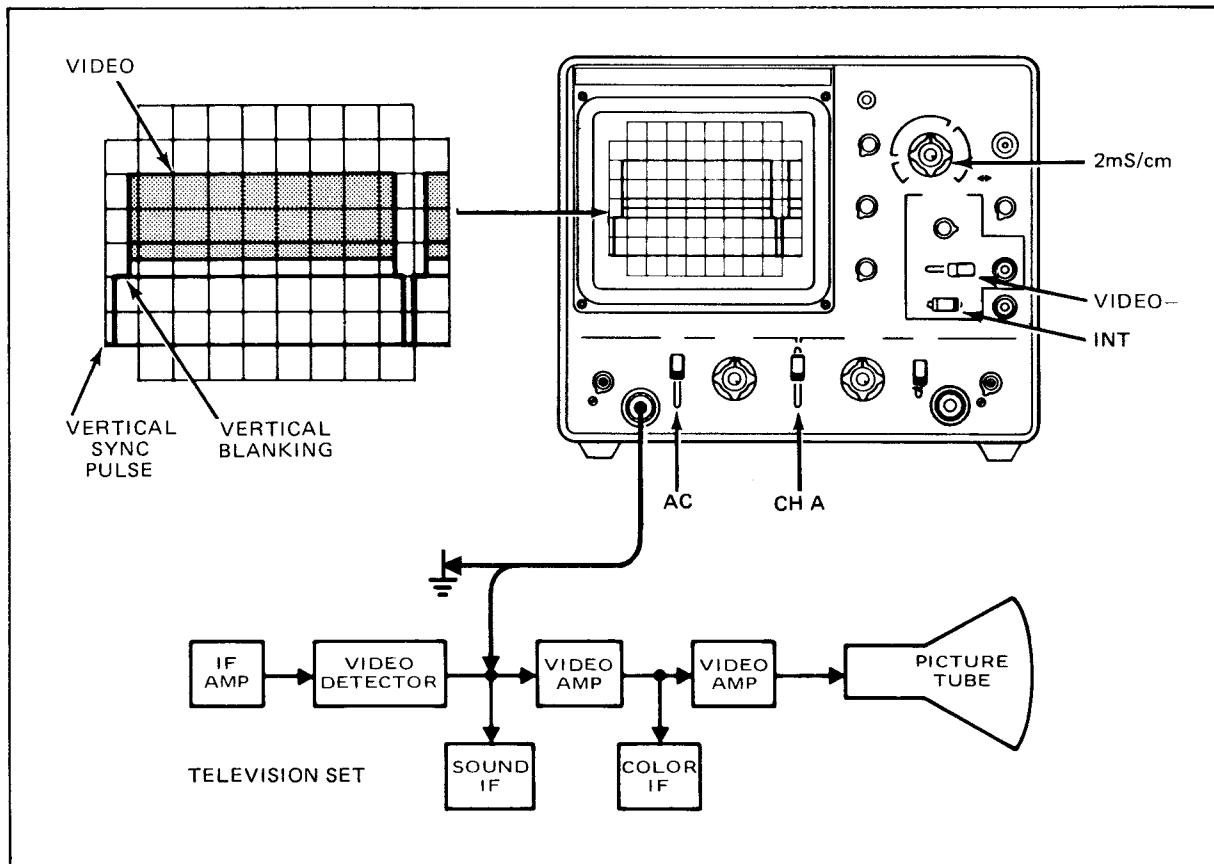
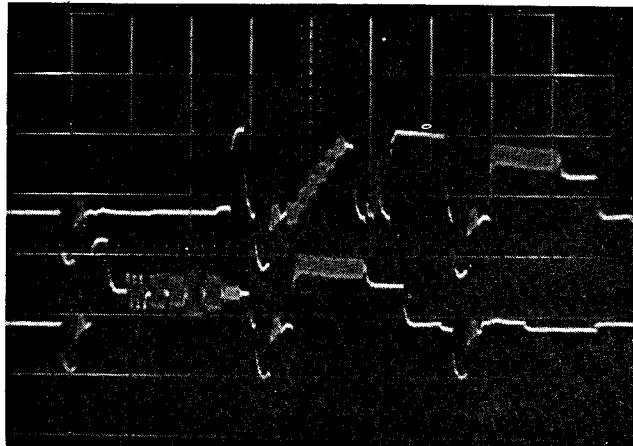
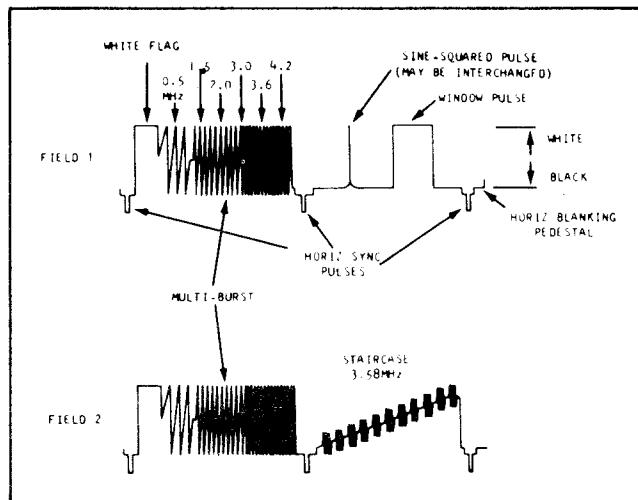
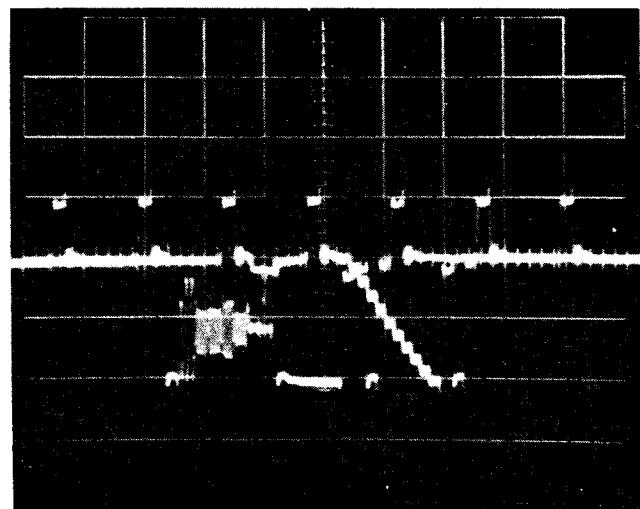

Fig. 14. Set-up for viewing fields 1 and 2 of VITS information.
Fig. 15. Oscilloscope presentation of fields 1 and 2 of VITS information.
Fig. 20. Typical VITS signal, fields 1 and 2.
Fig. 22. Oscilloscope presentation of VITS information, single-trace operation.
Many of the video servicing procedures can be performed using single-trace operation. These are outlined later in the applications section covering single-trace operations. One of these procedures, viewing the VITS (vertical interval test signal), can be accomplished much more effectively using a dual-trace oscilloscope. As outlined in the single-trace applications section and as shown in Fig. 20 and 21, the information on the Field #1 and Field #2 vertical blanking interval pulse is different. This is shown in detail in Fig. 20. Also, because the oscilloscope sweep is synchronized to the vertical blanking interval waveform, the Field #1 and Field #2 waveforms are superimposed onto each other as shown in Fig. 22. With dual-trace operation, the signal information on each blanking pulse can be viewed separately without overlapping. Fig. 14 indicates the oscilloscope control setting for viewing the alternate VITS.
2. The control settings of Fig. 14 are those required to obtain a 2-field vertical display on Channel A.
9. Pull the \blacktriangleleft POS control outward to obtain an additional 5X magnification. Rotate the control in a counterclockwise direction moving the traces to the left until the expanded VITS information appears as shown in Fig. 15.
Fig. 15 shows the dual-trace presentation of the Field #1 and Field #2 VITS information. The Field #1 information is displayed on the bottom trace.
The transmitted VITS may vary from one channel to another, but is a precision sequence of specific frequency, amplitude, and waveshape similar to Fig. 20 and 21. The television networks use the precision signals for adjustment and checking of network transmission equipment, but the technician can use them to evaluate television set performance. The first line of Field #1 (line 17) may begin with a "flag" of white video, followed by sine wave frequencies of 0.5 MHz, 1.5 MHz, 2 MHz, 3 MHz, 3.6 MHz, (3.58 MHz) and 4.2 MHz. This sequence of frequencies is called the "multi-burst." The first line of Field #2 (line 279) may contain an identical multi-burst. This multi-burst portion of the VITS is the portion that can be most valuable to the technician. The second line of Field #1 and Field #2 (lines 18 and 280), which may contain the sine-squared pulse, window pulse and the staircase of 3.58 MHz bursts at progressively lighter shading, are valuable to the network, but have less value to the technician. As seen on the television screen, Field #1 is interlaced with Field #2 so that line 17 is followed by line 279 and line 18 is followed by 280. The en-
7. The waveform should be similar to that shown in Fig. 22. For the oscilloscope display, each vertical sync pulse starts a new sweep. This causes line 17 and line 279 (multi-burst) to be superimposed, as are lines 18
- The presentation of the preceding paragraphs (Fig. 22) is the limit of observation possible with a single-trace oscilloscope. With the Model 1476 oscilloscope, however, a single-field VITS presentation can be oscilloscope position. This causes the Channel B information to be displayed on alternate sweeps, as are Field #1 and Field #2 VITS. Because there is no provision for preselecting Field #1 or Field #2 information, either Field #1 or Field #2 (Fig. 15) will appear. The multi-burst information in the VITS is the most valuable for troubleshooting television receivers and, because it is present on both Field #1 and Field #2 VITS, either can be used for troubleshooting and signal tracing.